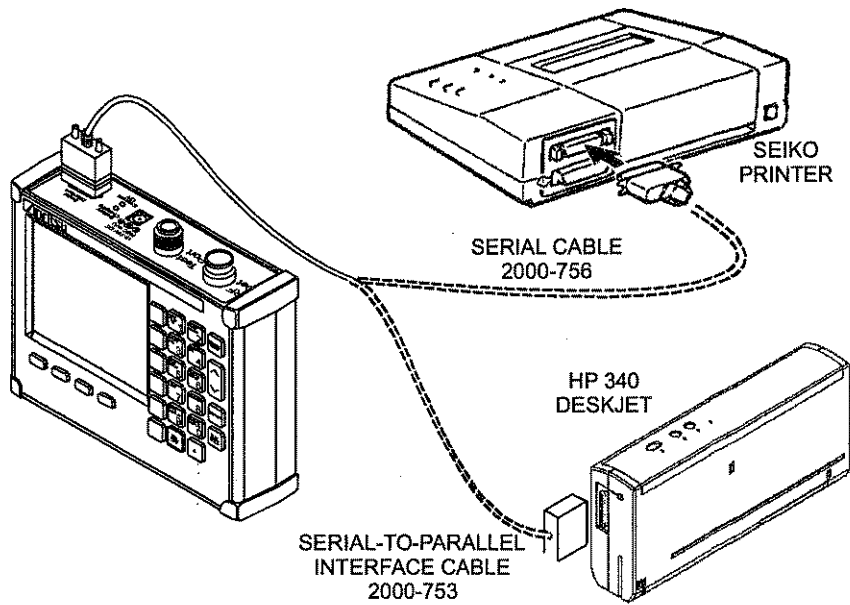

Figure 2-9. Printer Setup
Printing is accomplished using the Seiko DPU-414 thermal printer, the Hewlett Packard DeskJet 340 ink jet printer, or any printer listed in the MS2711A printer selection table. Figure 2-9 shows a setup diagram for two types of printers. Refer to the printer manual for setup details.
**Step 1.** Connect the printer as shown in Figure 2-9.